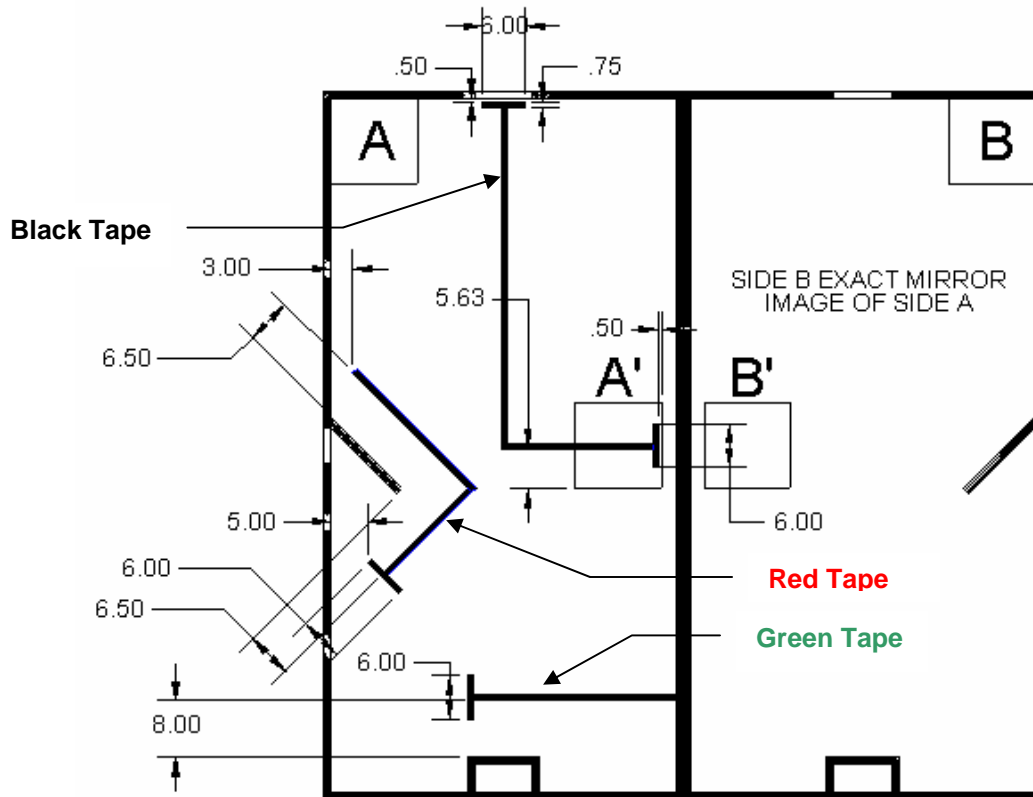

Fig. 2: Top View of Playing Field Tape
- A line of black tape extends between Goal #1 and the Happy Fun Ball Dispenser on each side of the playing field (see Fig. 2).
- A line of red tape extends around the blind surrounding Goal #2 on each side of the playing field (see Fig. 2).
- A line of green tape extends horizontally from the center wall to the region in front of Goal #3 on each side of the playing field (see Fig. 2).
- Tape locations on the playing field are approximately as shown in Fig. 2. Expect variations on the order of $\pm 1''$.